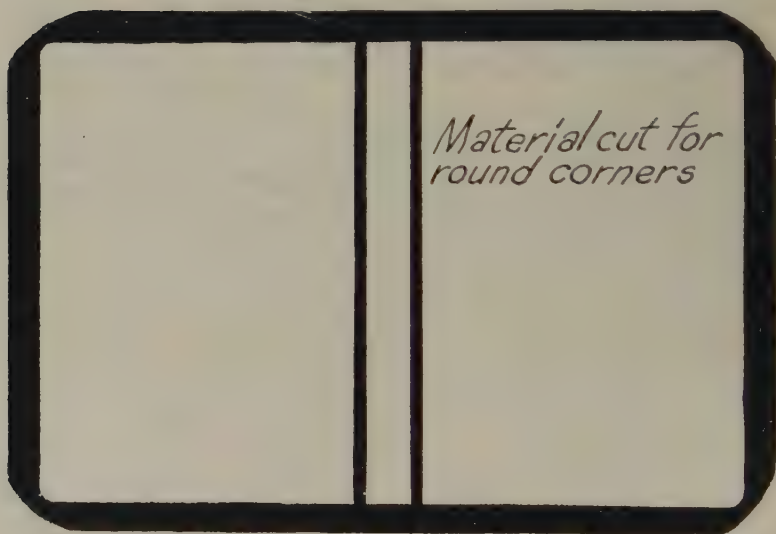

FIG. 89—BOARDS AND COVERING MATERIAL CUT FOR
8. Cut your round corner material like Fig. 89, Page 204.